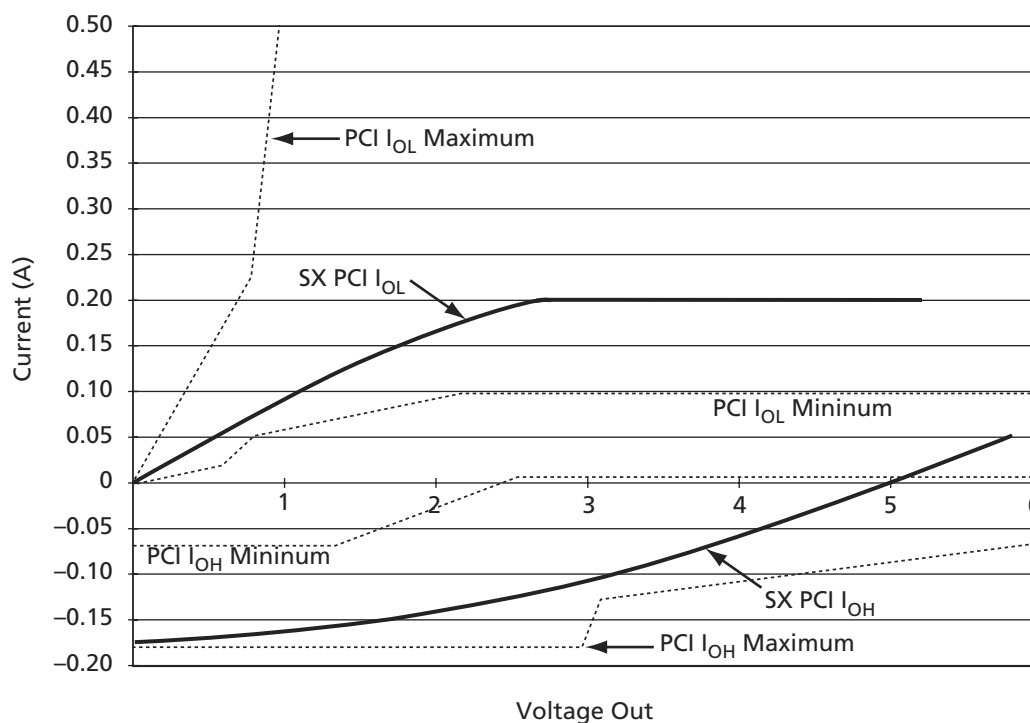

Figure 1-9 • **5.0 V PCI Curve for A54SX16P Device**
1. Refer to the *VI* curves in Figure 1-9 on page 1-11. Switching current characteristics for REQ# and GNT# are permitted to be one half of that specified here; i.e., half-size output drivers may be used on these signals. This specification does not apply to CLK and RST#, which are system outputs. "Switching Current High" specifications are not relevant to SERR#, INTA#, INTB#, INTC#, and INTD#, which are open drain outputs.
3. Maximum current requirements must be met as drivers pull beyond the last step voltage. Equations defining these maximums (A and B) are provided with the respective diagrams in Figure 1-9 on page 1-11. The equation defined maxima should be met by design. In order to facilitate component testing, a maximum current test point is defined for each side of the output driver.
Figure 1-9 shows the 5.0 V PCI V/I curve and the minimum and maximum PCI drive characteristics of the A54SX16P device.